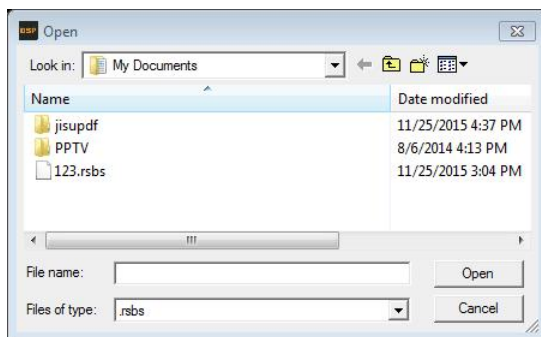

Figure 3.4.7
Step2: Click "computer import" after entry window will pop open file dialog box (Figure 3.4.7).